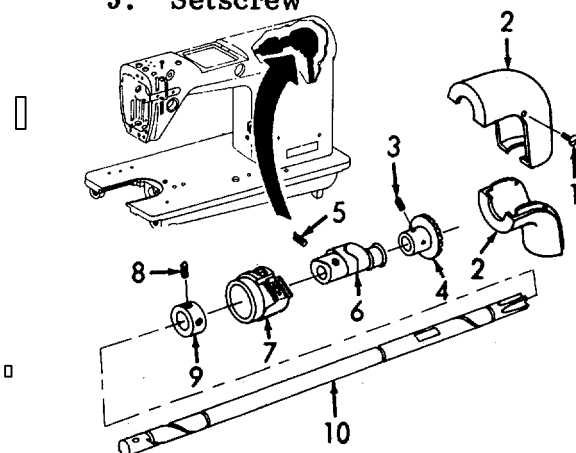

Figure 6-71. Upper Shaft, Removal.
(3) Remove setscrew (5), stud (6), and lever assembly (7).
(4) Loosen setscrew (8) and remove counter weight (9).
(5) Refer to Figure 6-71. Remove screw (1) and both gear cover halves (2).
(6) Loosen two setscrews (3) on pinion gear (4).
(7) Loosen two setscrews (5) on eccentric (6).
(8) Move sleeve (7).
(9) Loosen two setscrews (8) on collar (9).
(10) Remove shaft (10) out of the pulley end of arm. While pulling the shaft (10), remove the collar (9), sleeve (7), eccentric (6), and the pinion gear (4).